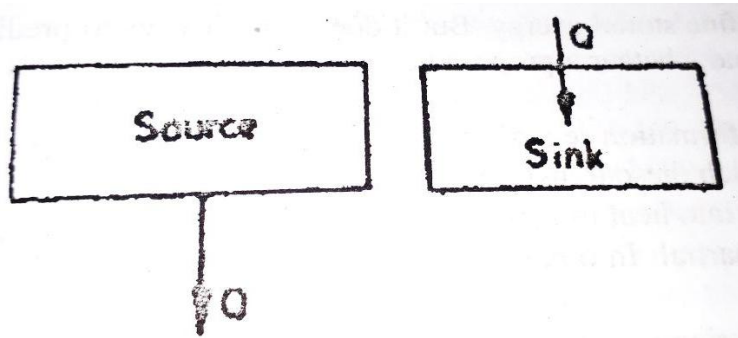

Fig.1.3 Heat source and sink
2. **Heat source** : a reservoir that supplies energy in the form of heat is called a source (Fig.1.3).